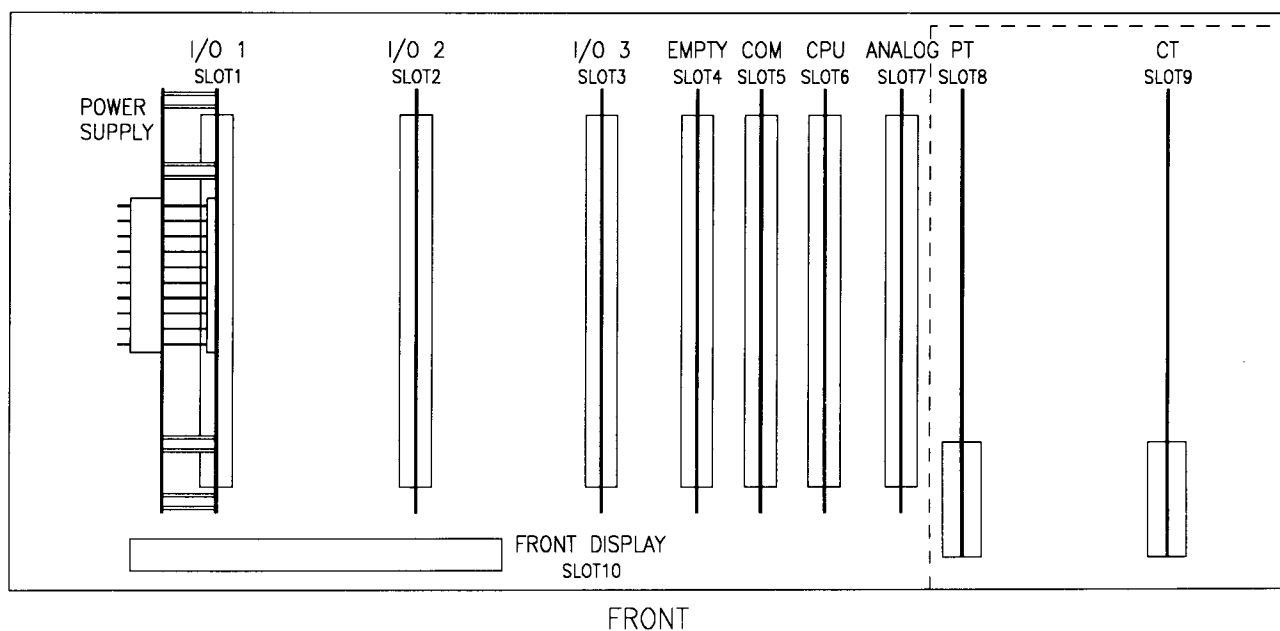

Figure 26. Circuit Card Arrangement
1. Remove the relay from its case and position it horizontally with the power supply to the left and the front panel facing you, as shown in Figure 26.